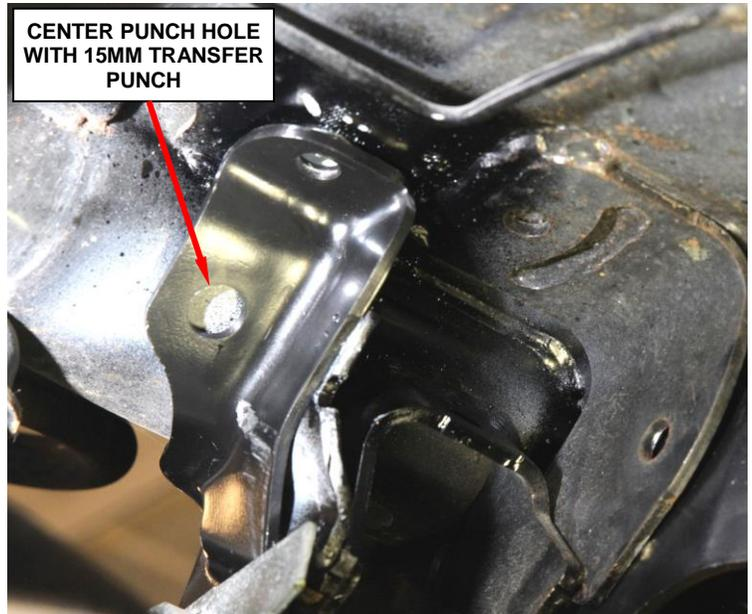

Figure 18 – Center Punch hole with 15mm Punch
29. Mark the remaining rear bracket hole with the supplied 15 mm transfer punch (Figure 18).